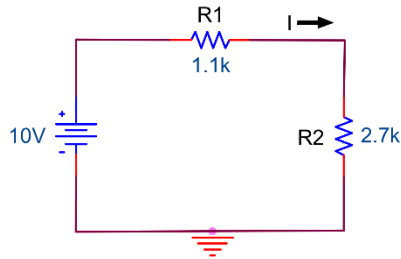

Figure 2.1
1. Calculate R_T , V_1 , V_2 , and I for Figure 2.1.